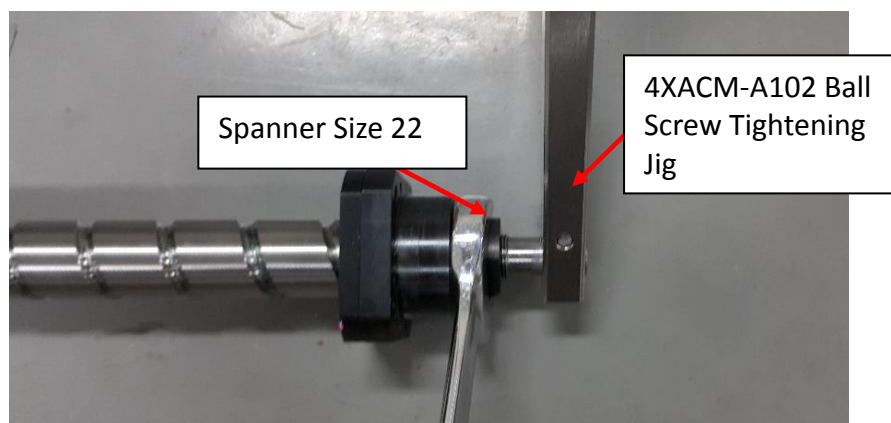
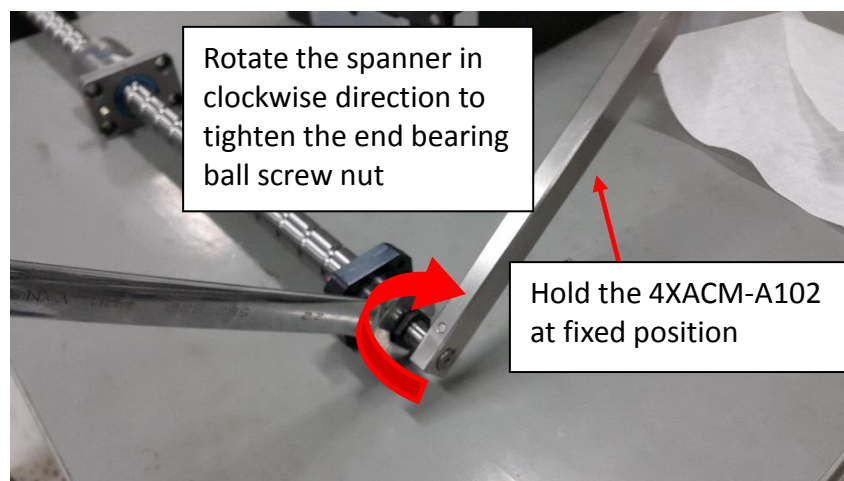

Figure 42 End bearing support nut assembly
Figure 43 End bearing support nut tightening
34. Tighten the End Bearing Support Nut by using the 4XACM-A102, Ball Screw Tightening Jig with the spanner size 22 as Figure 42. Rotate the spanner in clockwise direction to tighten the End Bearing Support Nut as shown in the Figure 43.